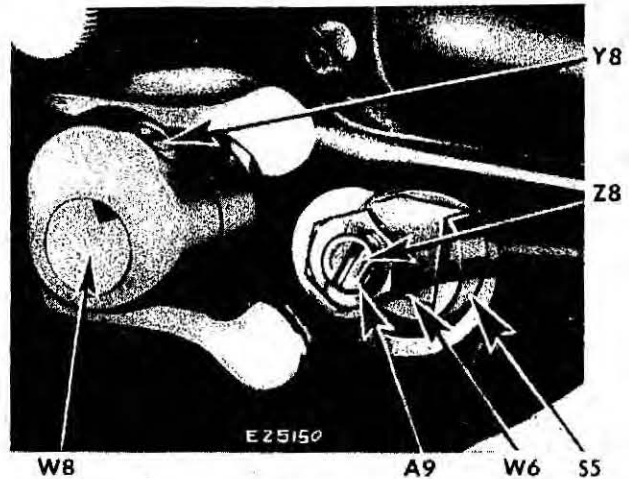

Fig. 159. X-ray View of Block and Slide
2. Loosen set screw **Y8, Fig. 159** and remove cam from shaft **W8**.
4. Lift fork from machine while guiding slide block **W6, Fig. 159** from slide.
1. While guiding the two bright bearing surfaces of slide block **W6, Fig. 159** into slide **S5** on bight mechanism, be certain shaft **W8** is between prongs of vibrator fork.
3. Set cam on shaft **W8, Fig. 159** with set screw **Y8** over the notch in shaft and two edges of fork over the cam surface.
4. While pressing cam in **Fig. 159** toward fork, push gear in **Fig. 160** toward cam with a screwdriver to eliminate excessive play and noise. Securely tighten set screw **Y8, Fig. 159** without binding machine. If machine binds, reset cam.